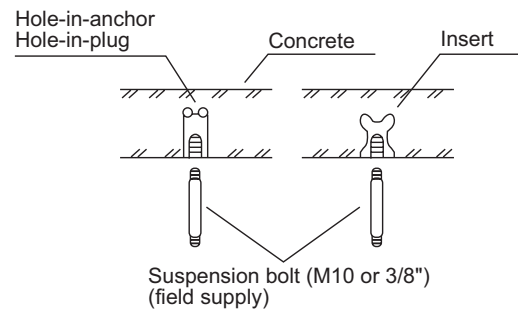
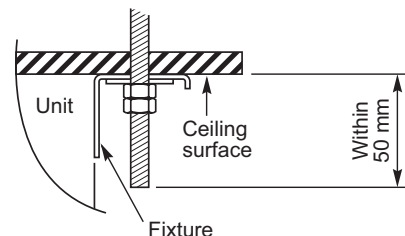

Fig. 2-69
Fig. 2-71
- (2) Drill holes at the 4 points indicated on the full-scale diagram.
- (3) Depending on the ceiling type:
- a) Insert suspension bolts (Fig. 2-69).
- (4) Screw in the suspension bolts, allowing them to protrude from the ceiling (Figs. 2-69 and 2-70). The distance of each exposed bolt must be of equal length within 50 mm. (Fig. 2-71)